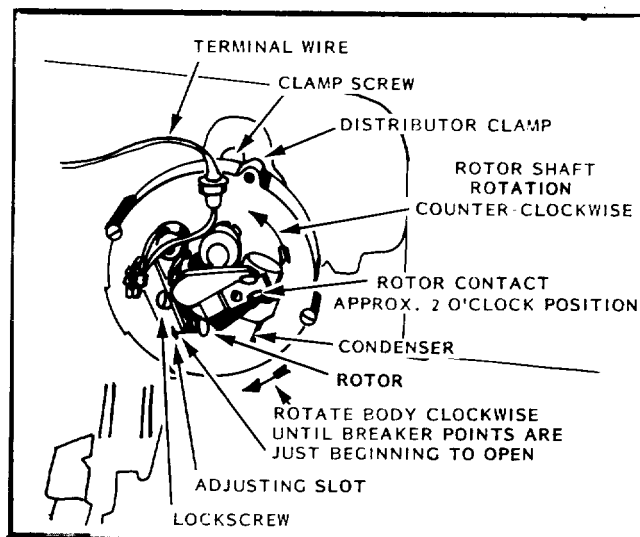
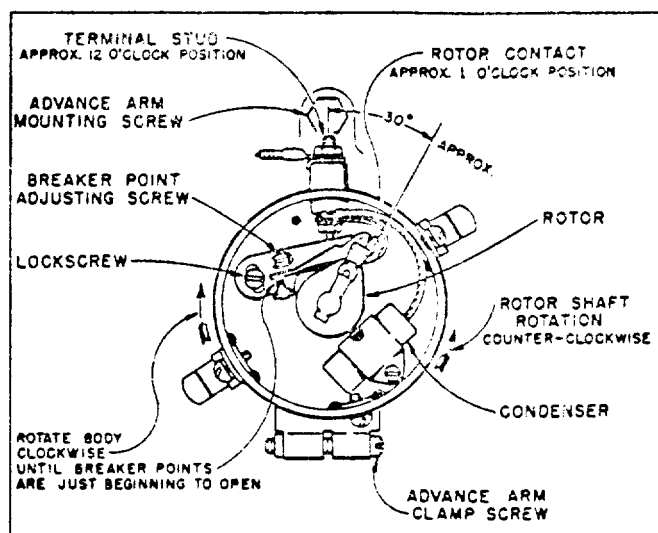

Fig. B-11 DELCO-REMY DISTRIBUTOR
Fig. B-12 PRESTOLITE DISTRIBUTOR
4. **DISTRIBUTOR TIMING:** With the No. 1 piston now on TDC of the compression stroke, refer to Fig. B-11 for the revised Delco-Remy distributor or Fig. B-12 for Prestolite, and mount distributor as follows:
- b. Hold distributor with face up and terminal wire or terminal stud, away and in a 12 o'clock position as shown. Mount rotor on shaft and turn until the rotor contact points in an approximate 2 o'clock position as illustrated in Fig B-11, or 1 o'clock position as in Fig. B-12.
- d. Mount distributor clamp to drive housing, Fig. B-11, but do not tighten screw. If applicable, as per Fig. B-12, tighten advance arm mounting screw to the drive housing.